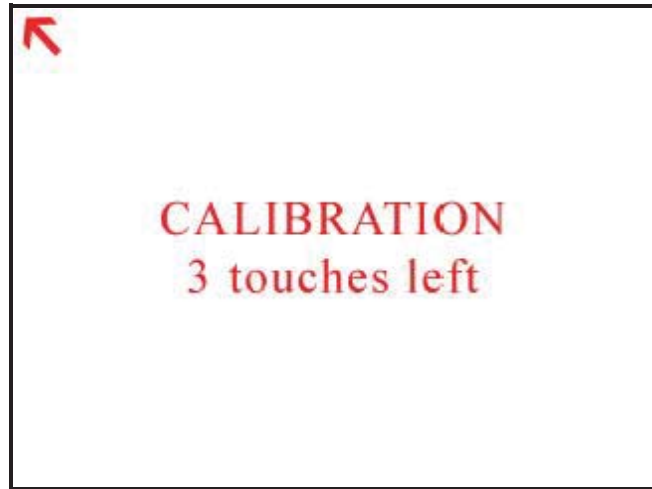

Figure 5-29 Alignment Step 3
- Touch the circle in the lower right corner. See Figure 5-29.